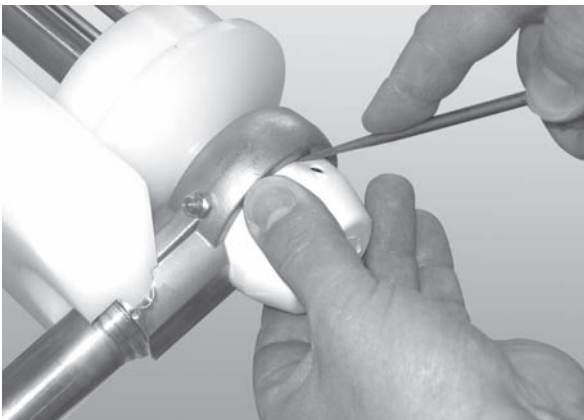

Figure 77
- Remove the bearing cover (**Figure 77, item 1**).